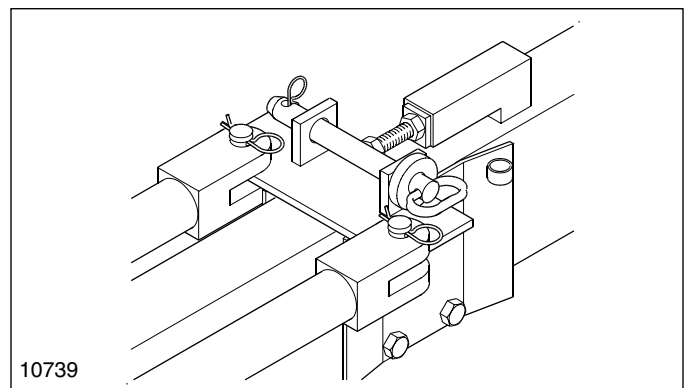

Figure 20
3. Check to be sure the pull-bar transport lock pin is in position as shown in Figure 20, Pull-Bar Lock Pin in Transport Position.